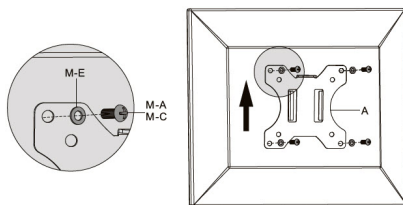

Figure 5
2. Remove any **Screws** or **Place Holders** from the **VESA Mounting Holes** on the back of the **Monitor**. (Figure 5)